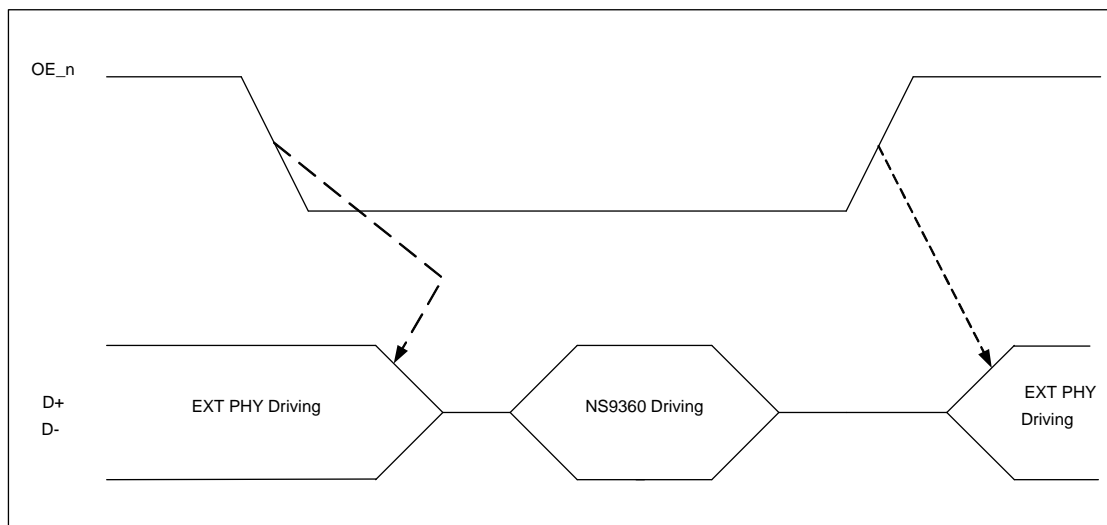

Figure 108: NS9360 data interface to bidirectional external USB PHY
- To prevent bus contention when both the USB PHY and the NS9360 are changing their data interfaces from input to output, OE_n is asserted before the NS9360 drives D+/D- as shown in Figure 108.
- To prevent bus contention when both the USB PHY and the NS9360 are changing their data interfaces from output to input, the NS9360 turns off D+/D- before OE_n is negated as shown in Figure 108.